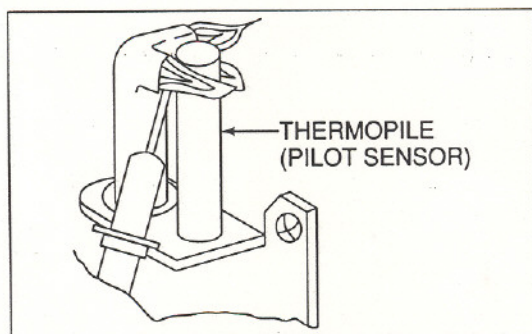

Figure 4
2. Adjust the pilot key to provide properly sized flame. See Figure 4.
Visually check the flame of the burner periodically, making sure the flames are steady; not lifting or floating. The flame color should be blue with yellow tips. The top 3/8" of the pilot sensor should be covered with flame. See Figures 4 and 5.